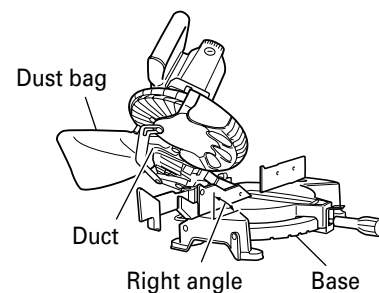

Fig. 32
(1) When the dust bag has become full of sawdust, dust will be blown out of the dust bag when the saw blade rotates. Check the dust bag periodically and empty it before it becomes full.
(2) During bevel and compound cutting, attach the dust bag at a right angle to the base surface as shown in Fig. 32.